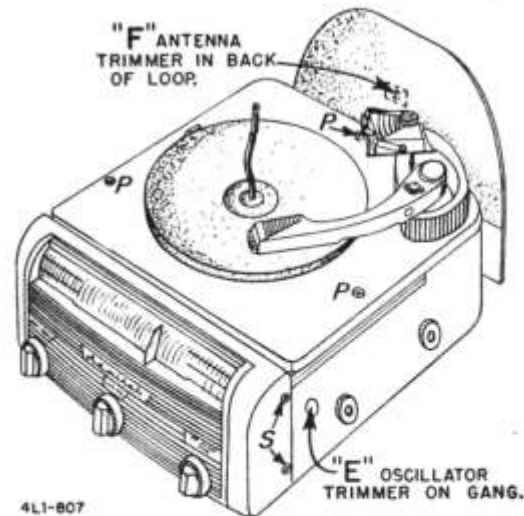
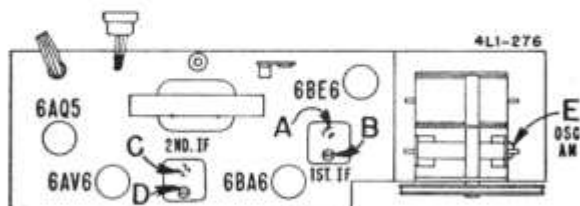

Figure 35. Radio-Phono Unit.
Figure 39. Radio Trimmer Locations.
Oscillator trimmer "E" and antenna trimmer "F" are accessible from the outside of the radio-phono housing, see figure 35.
The radio tubes can be serviced from top of the chassis by merely unscrewing the three screws "P" (figure 35) and lifting away the record changer assembly.
- c. Remove the radio front housing mounting screws "S" (Figure 35) at the sides and at the seams on the underside of the housing.
Oscillator and antenna trimmer are accessible without disassembly of chassis housing and dial scale. See Figure 35. For IF slug adjustments, it will be necessary to remove and disassemble the radio chassis as instructed under "Removing Radio Chassis Only For Servicing". See Figure 39 for trimmer locations.